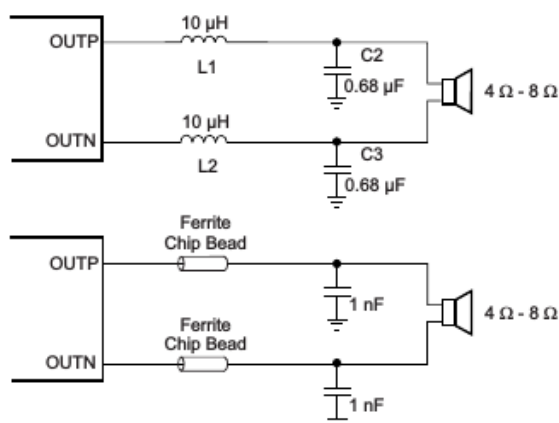

Figure 35. TPA31xxD2 Output Filters
- Output filter — The ferrite EMI filter (see Figure 35) should be placed as close to the output terminals as possible for the best EMI performance. The LC filter should be placed close to the outputs. The capacitors used in both the ferrite and LC filters should be grounded.